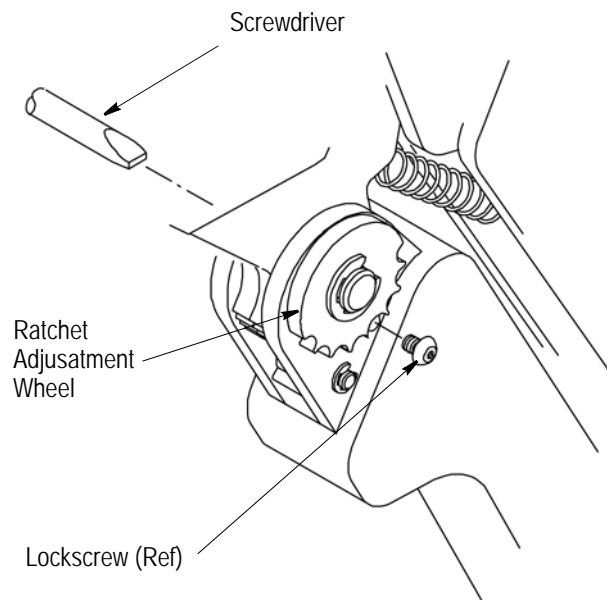

Figure 9
6. CRIMP HEIGHT ADJUSTMENT (FIGURE 9)